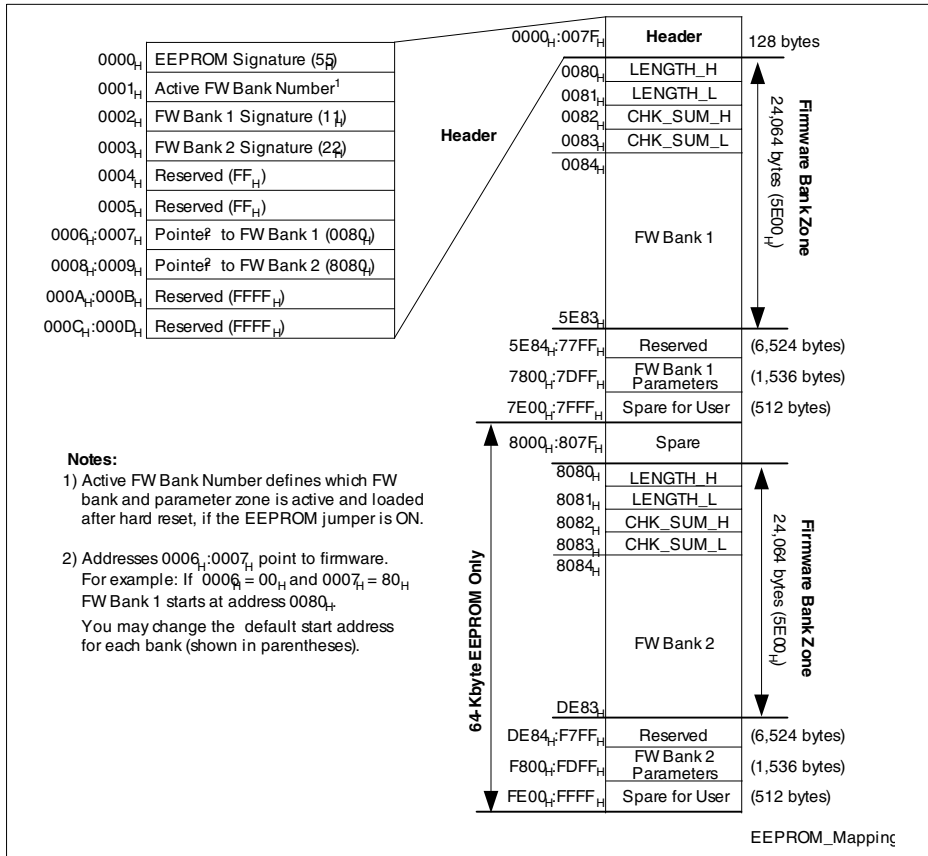

Figure 13 EEPROM Data Structure
The EEPROM includes the following zones (as shown in Figure 13) are described below:
- Pointer to FW Bank 1 ($0006_H:0007_H$) or 2 ($0008_H:0009_H$) - The 2-byte pointer for each bank points to the address where the corresponding firmware bank begins. **Figure 13** shows the default address for the start of each bank.